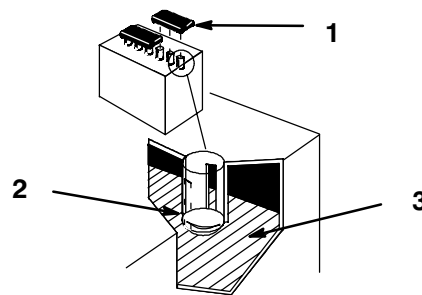

Figure 24
2. Remove the filler caps. If the electrolyte is not up to the lower part of the tube (Fig. 24), add the required amount of distilled water; refer to Adding Water to the Battery, page 28.
2. Remove the filler caps (Fig. 24).
- Slowly pour distilled water into each battery cell until the level is up to the lower part of the tube (Fig. 24).